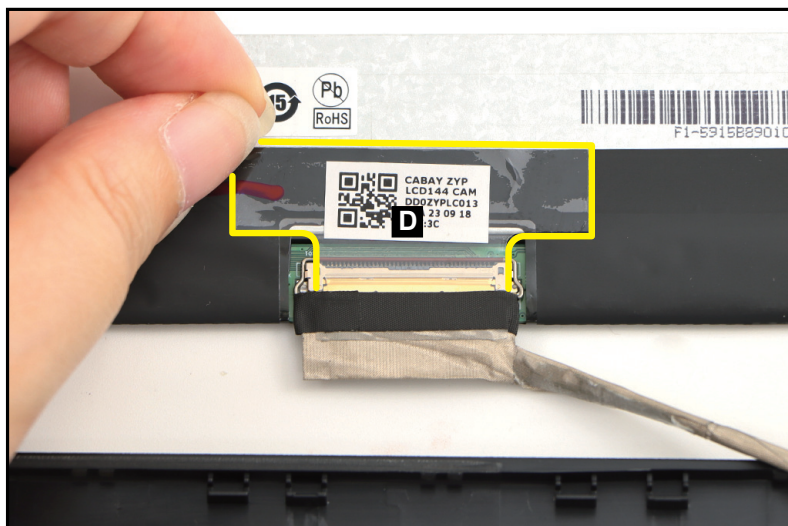

Figure 1-51. LCD Panel Removal
3. Carefully turn the LCD panel over so that the display panel is facing down on a flat surface. Then detach the mylar (D) securing the eDP cable to the LCD panel (Figure 1-51).